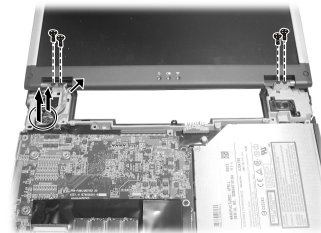

Figure 2-27 Remove four screws
9. Remove four screws and disconnect two cables. Carefully pull the antenna wires out. (Figure 2-27)